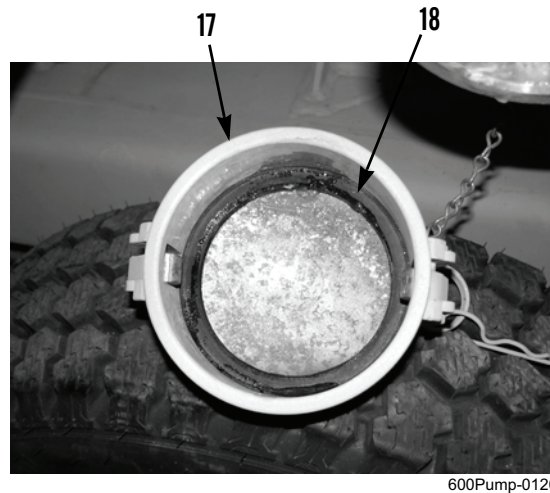
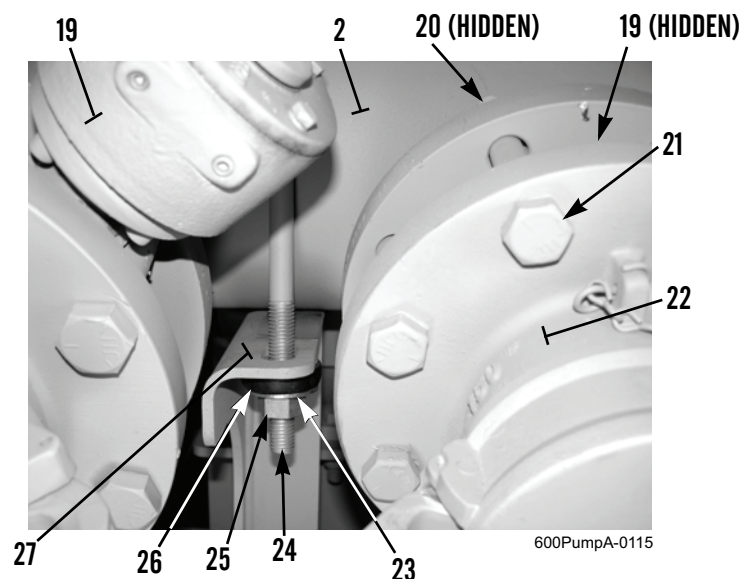

Figure 5. Gasket Inside Camlock Cover.
Figure 6. Discharge Manifold Mounting.
9. Remove cover (Figure 5, Item 17) from one discharge outlet flange (Figure 6, Item 22).
10. Inspect gasket (Figure 5, Item 18) inside cover (Figure 5, Item 17) for damage. Obtain replacement gasket, if damaged.
11. With assistance, remove eight locknuts (Figure 6, Item 20) and bolts (Figure 6, Item 21) and remove discharge outlet flange (Figure 6, Item 22) and gate valve (Figure 6, Item 19) from outlet flange of discharge manifold (Figure 6, Item 2). Discard locknuts.
12. Repeat steps 9 through 11 to remove fittings from two remaining outlet flanges of discharge manifold (Figure 6, Item 2).
13. Remove two nuts (Figure 6, Item 25), four washers (Figure 6, Item 23), and two shock mounts (Figure 6, Item 26) from each of two U-bolts (Figure 6, Item 24) and welded mounting brackets (Figure 6, Item 27).
20. If damaged, remove two rubber strips from welded mounting brackets (Figure 6, Item 27).